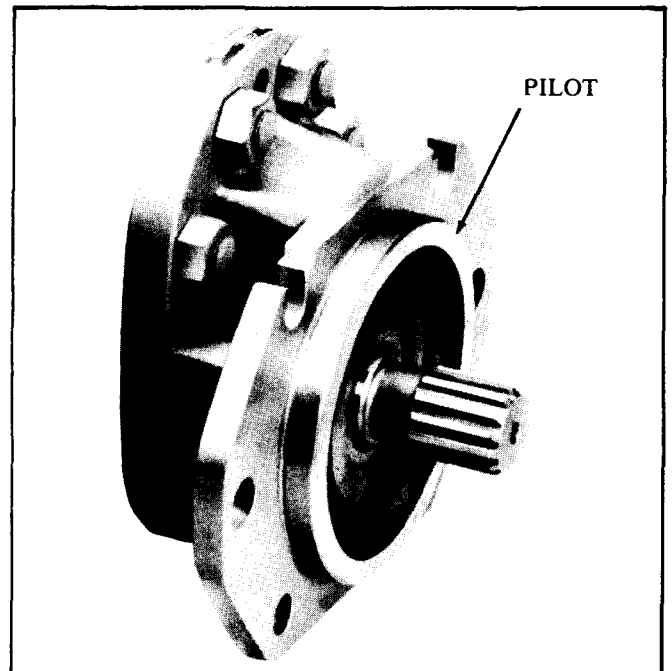

Figure 3. Front Cover Mounting Pilot
1. Direct Drive - A pilot on the mounting flange (Figure 3) assures correct mounting and shaft alignment, provided the pilot is firmly seated in the accessory pad of the power source. Care should be exercised in tightening all flange mounting screws to prevent misalignment. Shaft keys and couplings must be properly seated to avoid slipping and possible shearing. Proper coupling alignment is essential to prolong pump life.